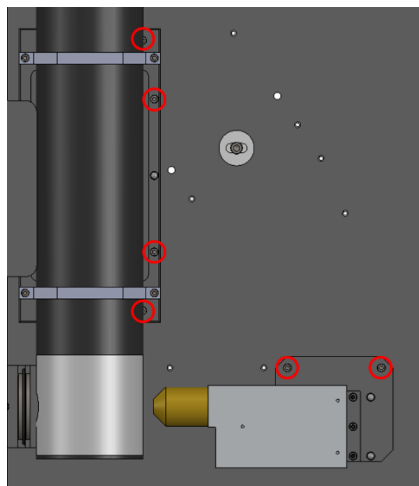

Figure 25: Location of all mounting screws for both x-ray sources.
2. Remove the six screws shown in Figure 25 (you will need a 3mm Allen key to do this).